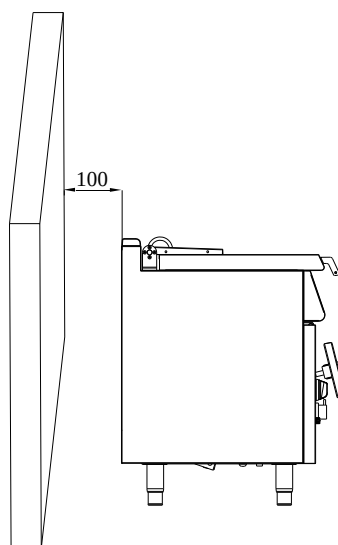

Figure 2
- Place the device at a place min. 10cm away from the side or back wall to prevent excessive temperature rises. (Figure 2)